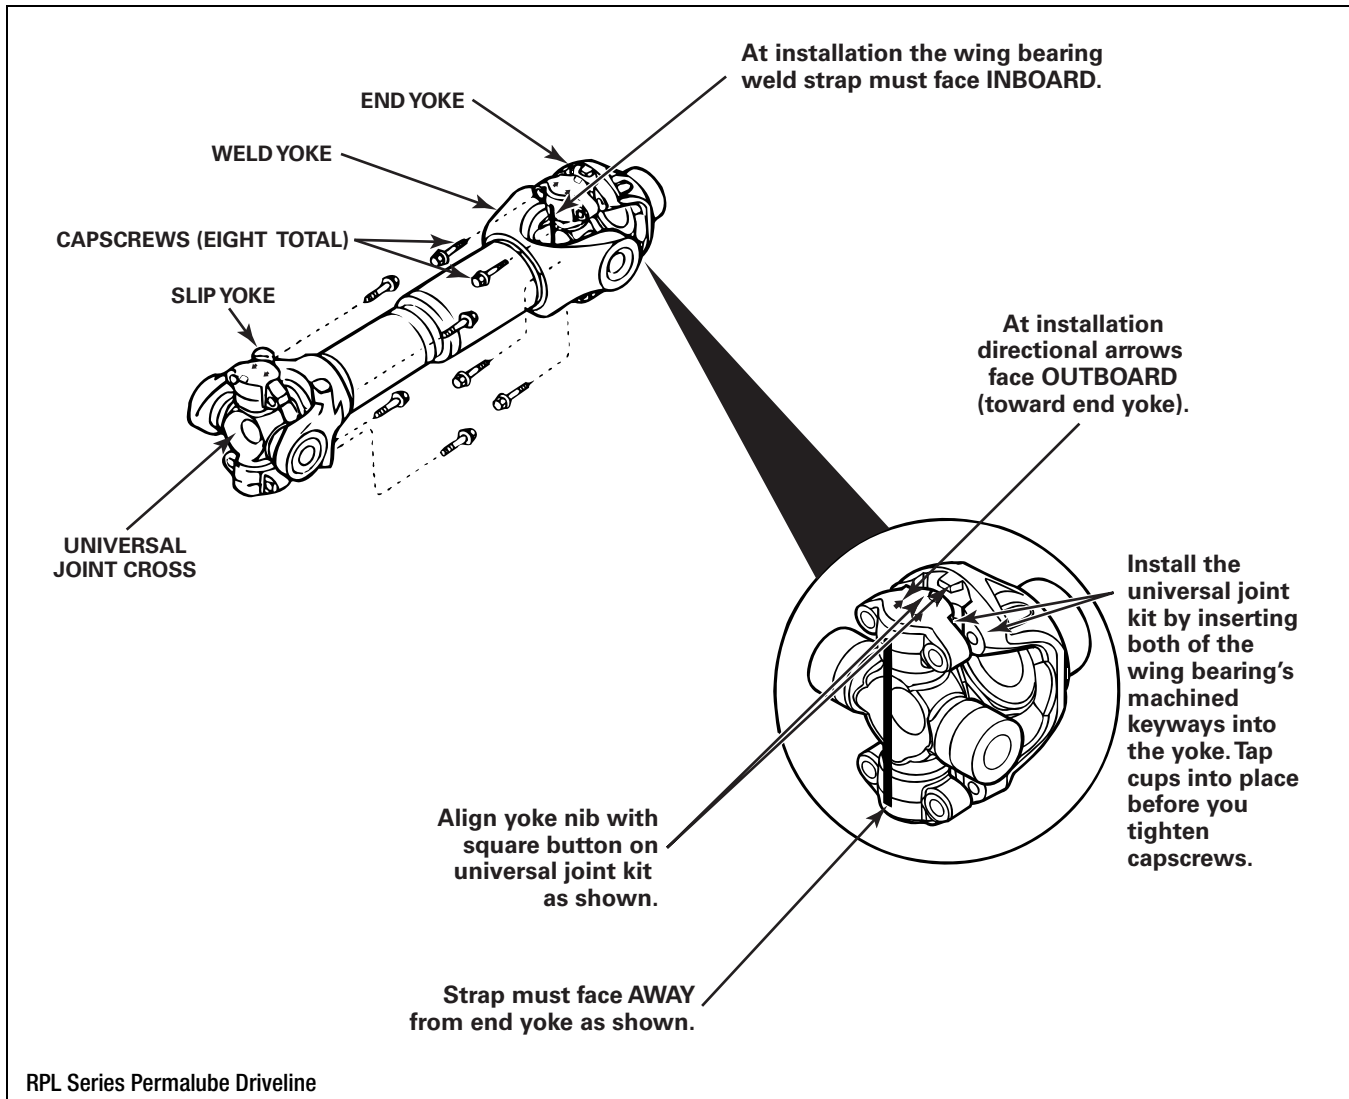

Figure 4.29
1. Clean dirt and contamination from the slip yoke and weld yoke ear bores. Figure 4.29.